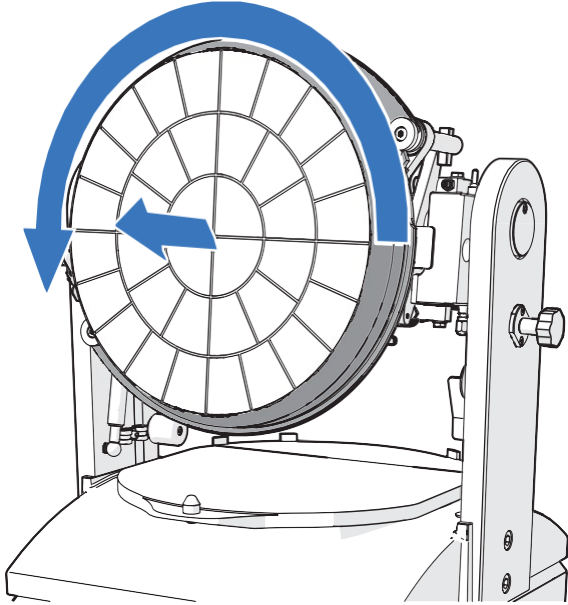

Figure 12 Remove the pressing ring
8. Remove the pressing ring by turning it anticlockwise. See Figure 12.